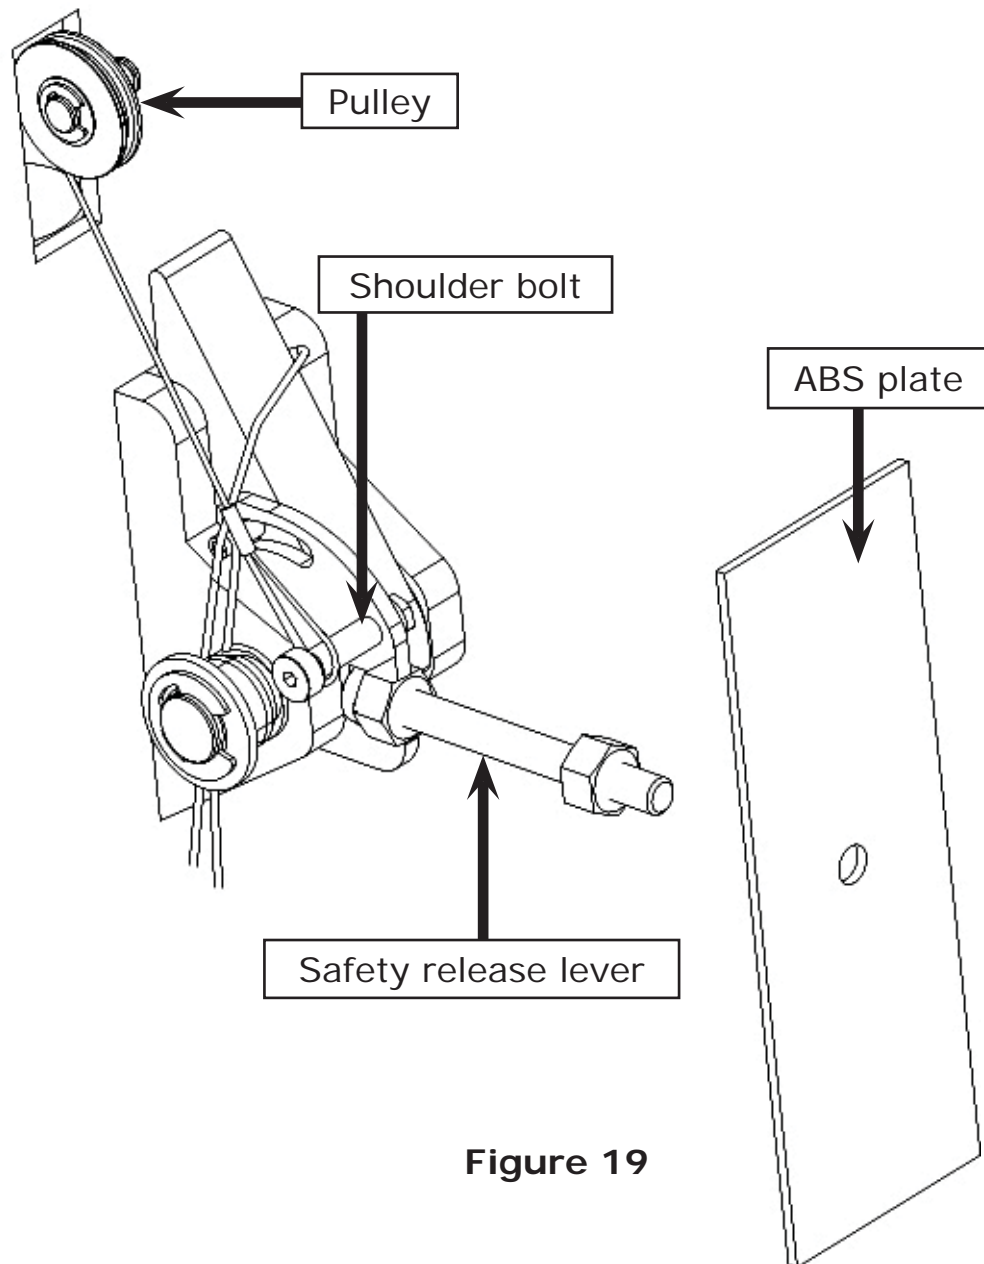

Figure 19
- Install the cable pulley and the retaining rings in upper slot of the ***power-side column*** (ref. fig. 19);
- Slip the loop end of the cable over the shoulder bolt (ref. fig. 19);
- Feed another end of the cable through the upper slot and make sure cable is routed under the bottom of the pulley and inside the column (ref. fig. 19);